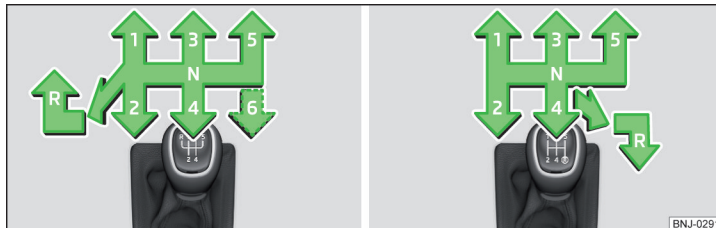

Fig. 211 **The shift pattern: Variant 1 (5-speed or 6-speed manual gearbox) / variant 2 (5-speed gearbox with the 1.0 litre MPI engine)**
On the gear lever, the shift pattern for the individual gear positions is shown » Fig. 211.
- Push the shift lever downwards fully to the left and then forward into **R** » Fig. 211.